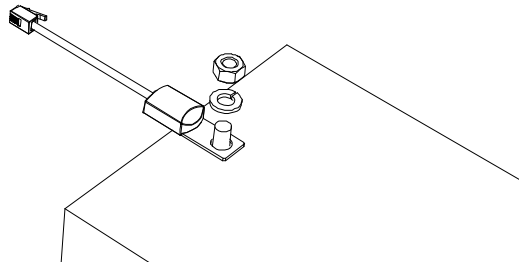

Figure 2-14 Attaching the BTS to a battery terminal
3. Connect the ring terminal on the BTS directly to the negative battery terminal or positive battery terminal, or use the adhesive backing on the sensor back to attach the sensor to any side of the battery to be monitored. See Figure 2-14.